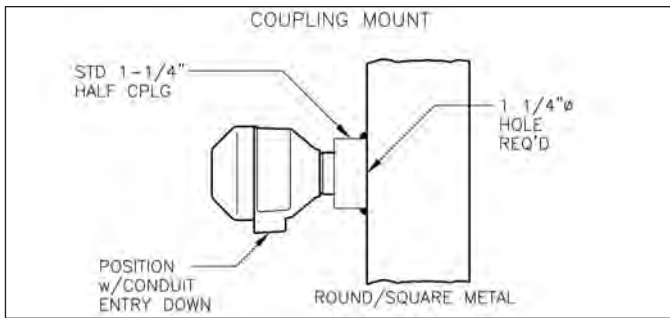

Figure 3
**Coupling Mount** - (See Figure 3) The SFD-2 sensor housing incorporates an aluminum 1 1/4" NPT connection. The connection is specially machined to provide flush mount installation when installed into a standard 1 1/4" half coupling. After selecting the appropriate location, cut a 1 1/2" diameter hole with in the pipe/chute. Position/center a 1 1/4" half coupling over the hole and weld into place. Prior to sensor installation, prepare the mounting threads with Teflon® tape or pipe dope to insure sealing. Tighten the sensor into place insuring the conduit connection is facing downward.